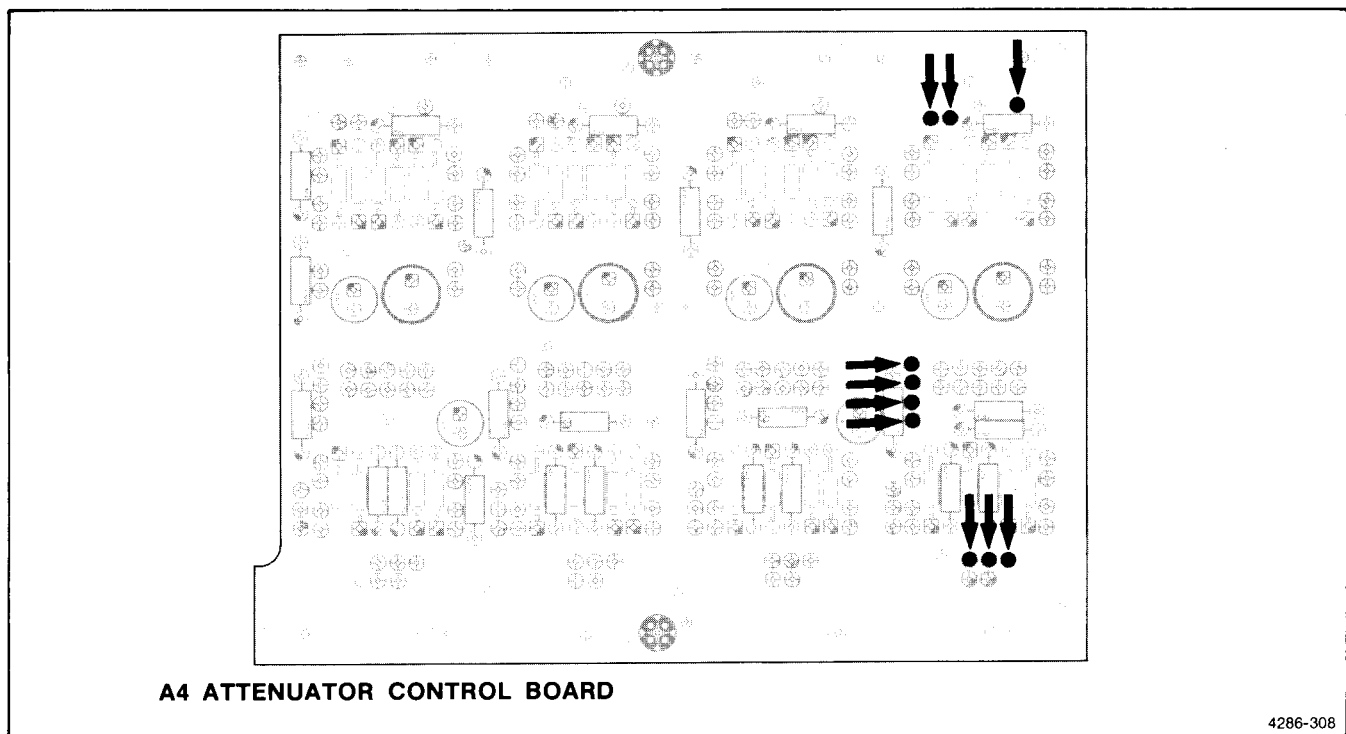

Figure 3-26. The 10 pins that must be unsoldered to remove an attenuator module.
3. Use the vacuum desoldering tool to unsolder the ten pins shown in Figure 3-26.
1. Inspect the A4 Attenuator Control Board to verify that the 10 holes where the module pins will fit are free and clear of any solder from a previous installation. See Figure 3-26.
3. Remove any excess solder from the 10 pins which will be soldered. See Figure 3-26.
13. Solder the 10 pins (see Fig. 3-26) to the board. Do not use excessive solder.